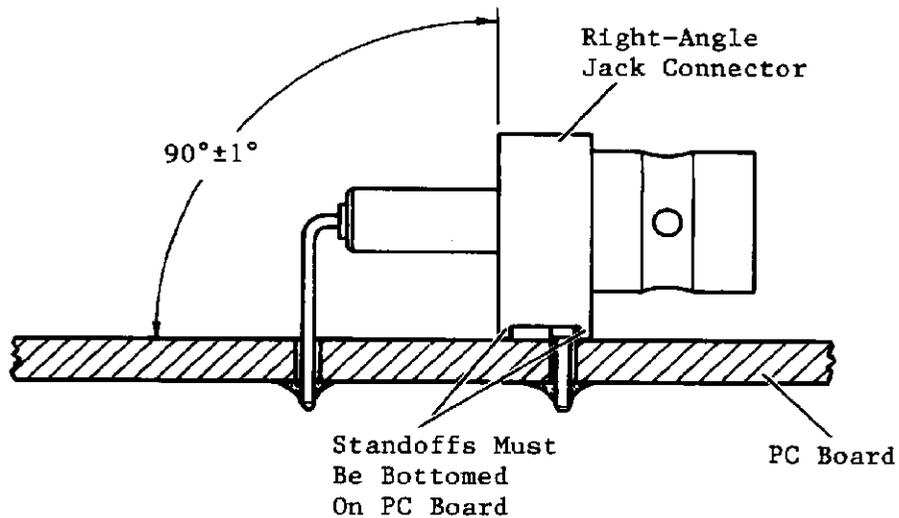

Fig. 3. Seated PC Board Connector Requirements
3.2. Seated pc board connectors shall meet the requirements of Figure 3.